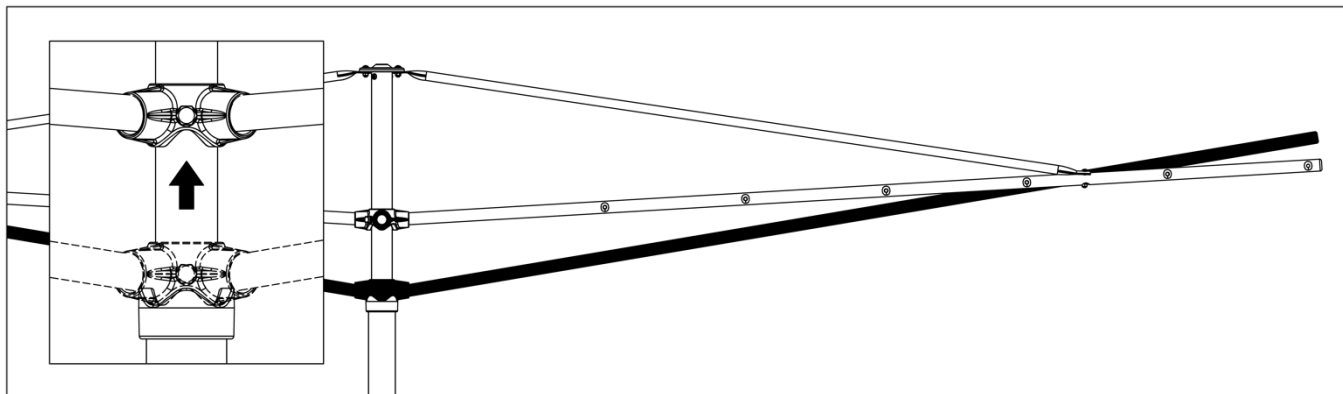

Fig 14. Move cross back up and tension wires.
1. Wind the clothesline down allowing the cross to move back up the column to its original position. Doing this will pull tension into the wire. (Fig 14).